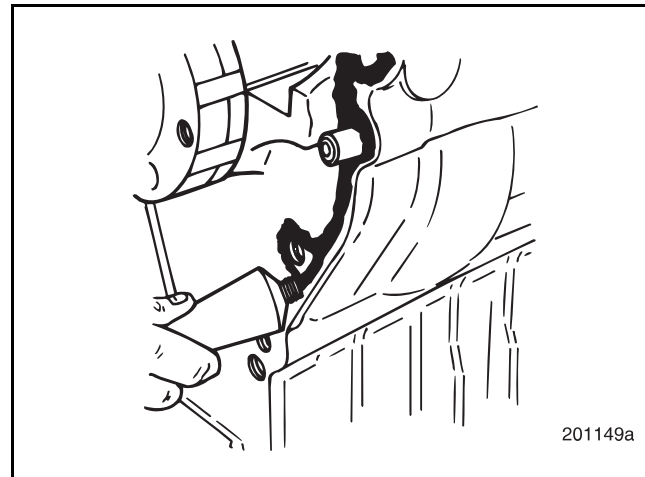

Figure 6-28 — Applying Sealant
4. Apply an even coat of Silastic (approximately a 1/16-inch [2 mm] bead) to the flywheel housing mounting surface of the cylinder block. Refer to Figure 6-28.